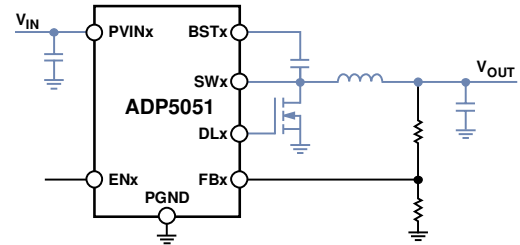

Figure 62. Typical Circuit with High Current Traces Shown in Blue
- Ensure that the high current loop traces are as short and wide as possible. Figure 62 shows the high current path.